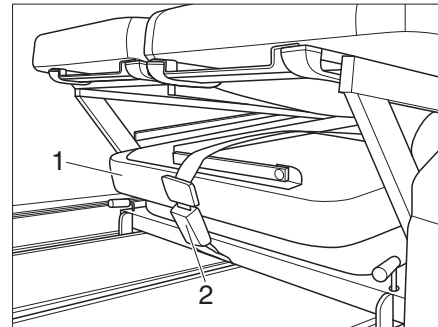

Fig. 7 Stow bed extension
- Stow the bed extension (Fig. 7,1) under the bench seat and secure it with the belt (Fig. 7,2) buckle.